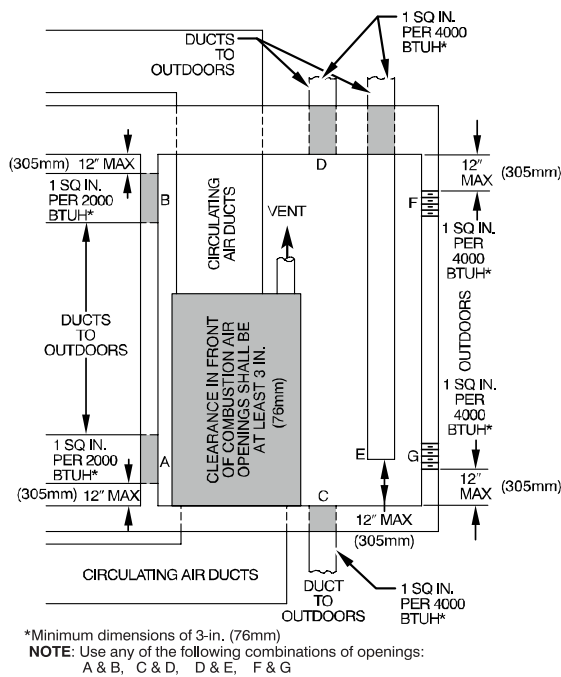

Fig. 6 – Air for Combustion, Ventilation, and Dilution for Outdoors
2. Fig. 6 illustrates how to provide TWO OUTDOOR OPENINGS, one inlet and one outlet combustion and ventilation air opening, to the outdoors.
- b. Size openings and ducts per Fig. 6 and Table 4.
- c. TWO HORIZONTAL DUCTS require 1 sq. in. (645 sq. mm) of free area per 2,000 BTU_h (1,100 mm²/kW) of combined input for all gas appliances in the space per Fig. 6 and Table 4.
- d. TWO OPENINGS OR VERTICAL DUCTS require 1 sq. in. (645 sq. mm) of free area per 4,000 BTU_h (550 mm²/kW) for combined input of all gas appliances in the space per Fig. 6 and Table 4.
- a. 1 sq. in. (645 sq. mm) of free area per 3,000 BTU_h (734 mm²/kW) for combined input of all gas appliances in the space per Fig. 6 and Table 4.